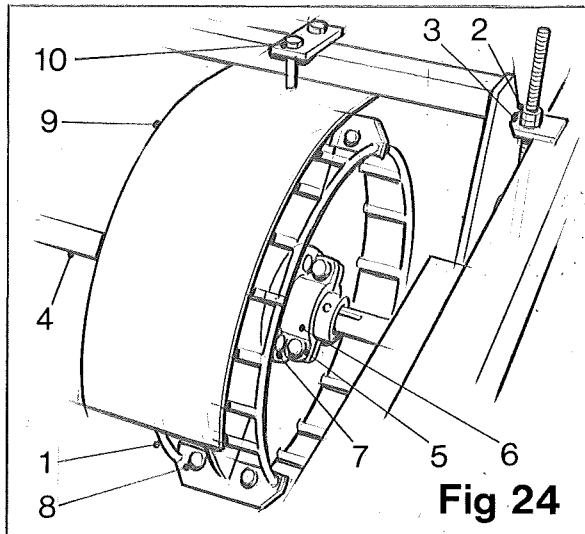

Fig 24
The cage wheels (item 1, fig 24) are fitted between the lifting wheels to transfer the beet onto the lift web. Provision is made to raise or lower the cage wheels, which generally should be set higher when the beet are large and lower when the beet are small.
To adjust the height of the cage wheels, loosen the lock nuts (item 2, fig 24) and turn the adjuster nuts (item 3, fig 24) until the cage wheels (item 1, fig 24) are in the required position. It is important when carrying out the above adjustment that the final position of the cage wheel shaft (item 4, fig 24) is in a direct horizontal line across the machine.
When various row settings are carried out it is also necessary to move the cage wheels (item 1, fig 24) to correspond with the final position of the lifting wheels.
To adjust the cage wheels (item 1, fig 24), loosen the nut and bolt (item 5, fig 24) in the cage wheel clamp (item 6, fig 24) and move the cage wheels (item 1, fig 24) across the cage wheel drive shaft (item 4, fig 24) to the required position. Retighten the nut bolt (item 5, fig 24).
To remove the cage wheels, remove the four retaining bolts (item 7, fig 24) and the four securing bolts (item 8, fig 24).
The cage wheel mud guards (item 9, fig 24) are designed to fit directly over the top of the cage wheels (item 1, fig 24) to eliminate the danger of dirt and stones being thrown from the wheels. Always ensure they are positioned correctly, especially when moving the cage wheels to a new setting. To adjust the cage wheel mud guards (item 9, fig 24), loosen the retaining nut and bolts (item 10, fig 24) move the mud guards (item 9, fig 24) to the required position, retighten the nuts and bolts (item 10, fig 24).